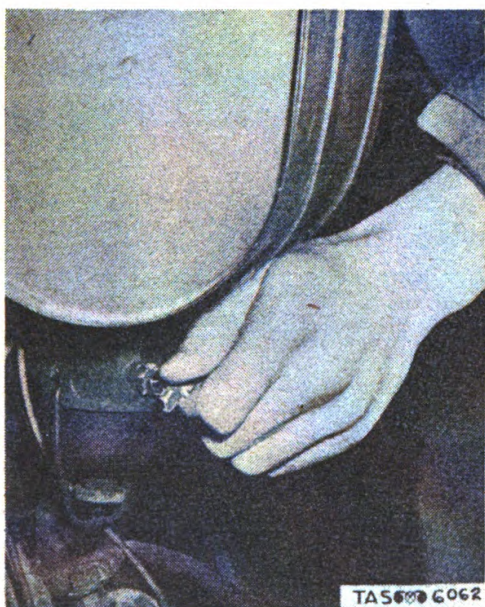

Fig. 62. Opening Carburetor Feed Valve.
(10) Open the carburetor feed valve on the glass strainer under the gasoline tank. (See fig. 62.)
(11) Turn on the ignition by PUSHING IN the ignition switch lever on the engine control panel.
(12) Start the engine by DEPRESSING the starter button on the engine control panel. Should the battery be dead, start